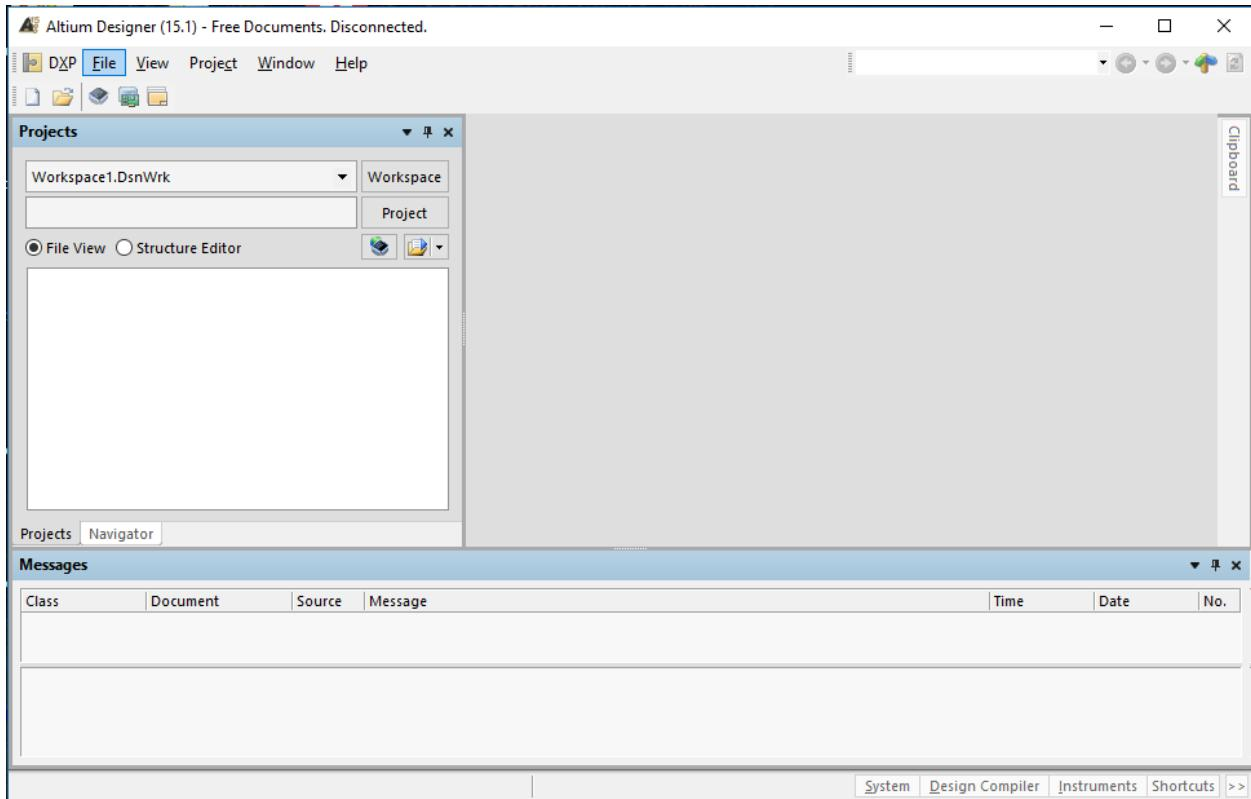

Figure 10: Altium No Project open.
2. Altium starts and if no project is open the screen should look like the one in Figure 10.